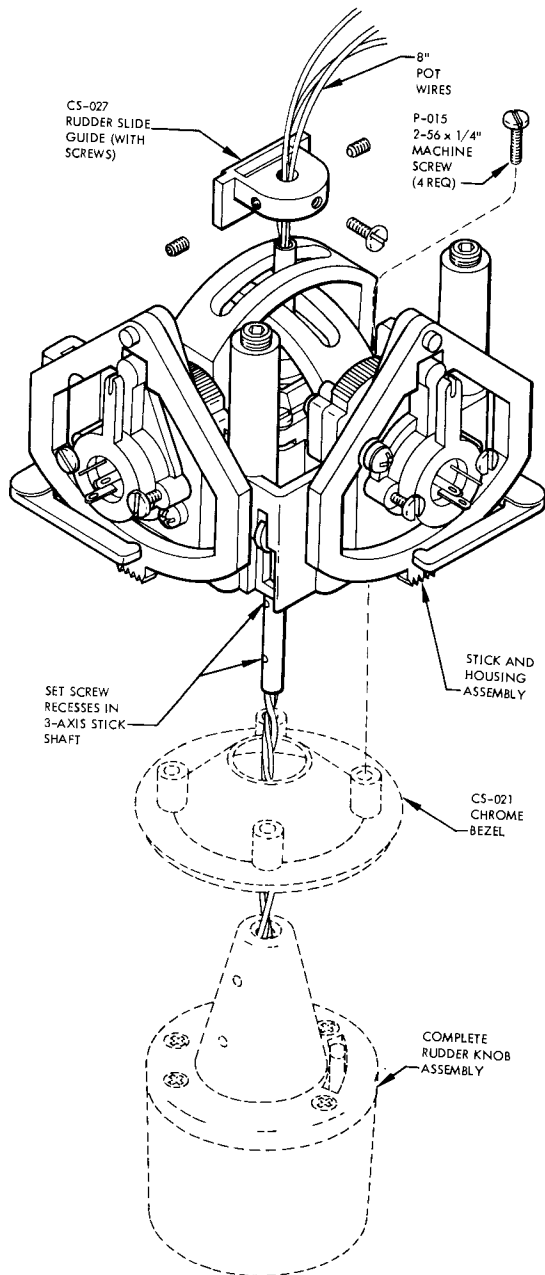

Figure 17. Final Assembly of Single Stick
- 129. Rotate stick shaft until set screw recesses are positioned as shown in figure 17. Place rudder slide guide over upper end of stick. Adjust position of guide so that side flange fits alongside large bail,